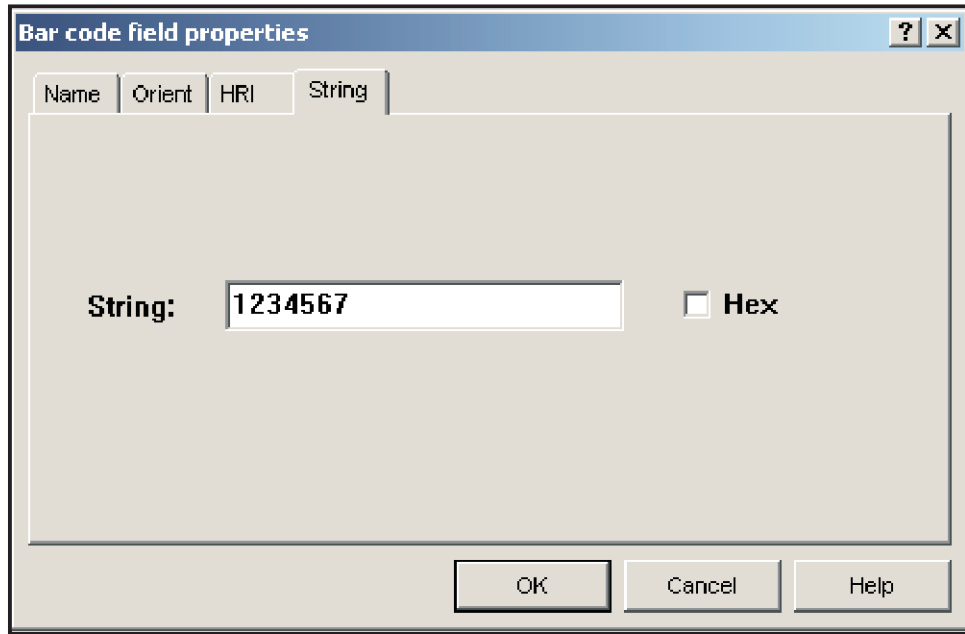

Figure 44. Specifying the Bar Code Properties
3. The **Bar code field properties** window opens, shown in Figure 44 on page 118. Use the pages on this window to specify the properties for this field. You can specify the string to encode (1234567 is specified in Figure 44), whether you want HRI and where you want it placed, and the bar code's orientation. Click **OK**.